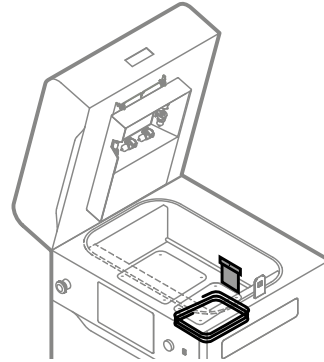

Fig. 12.27 Use a plastic spatula to press down the sealing.
21. Use a clean, plastic spatula while pressing down the fibreglass rope (fig. 12.27).